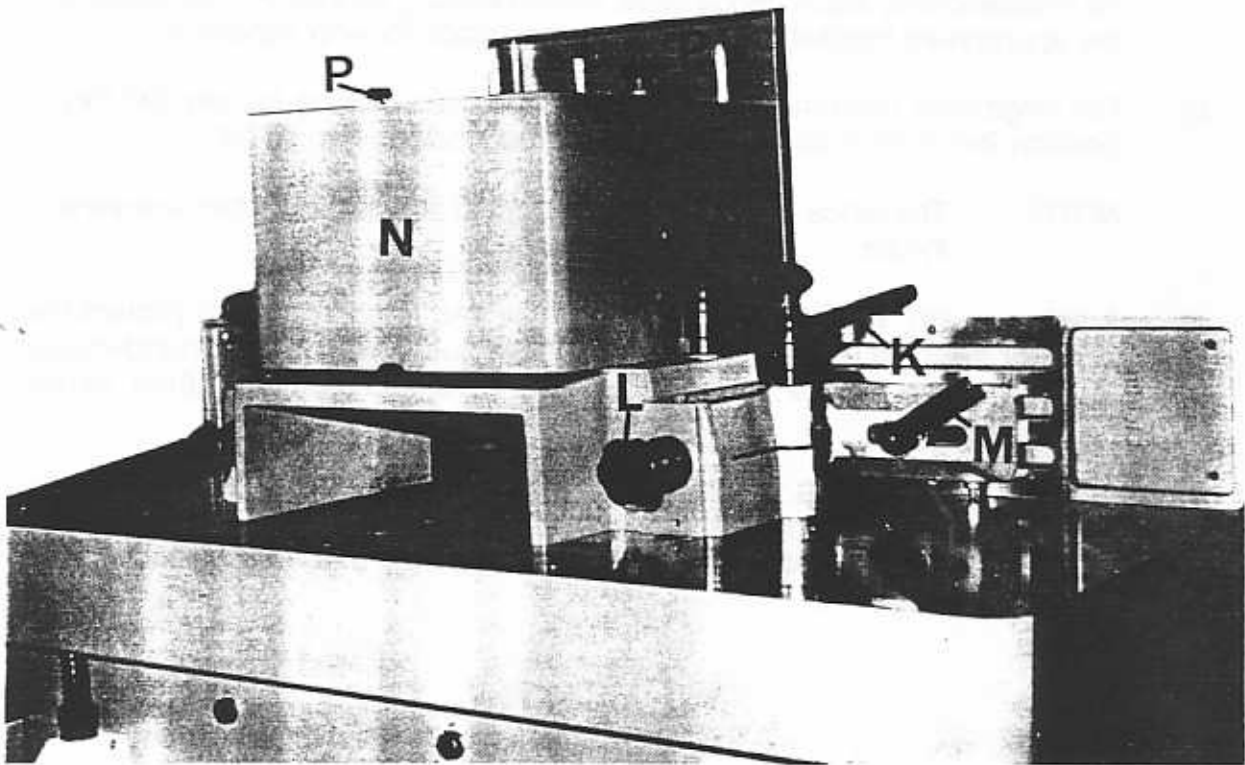

FIG. 10
- d) A safety guard "N" FIG.10 is fitted to fence and is adjustable to protect the operator from the rotating cutters. To adjust guard loosen the 2 handwheels "P", position guard to cover cutters as much as possible, then relock handwheels "P".